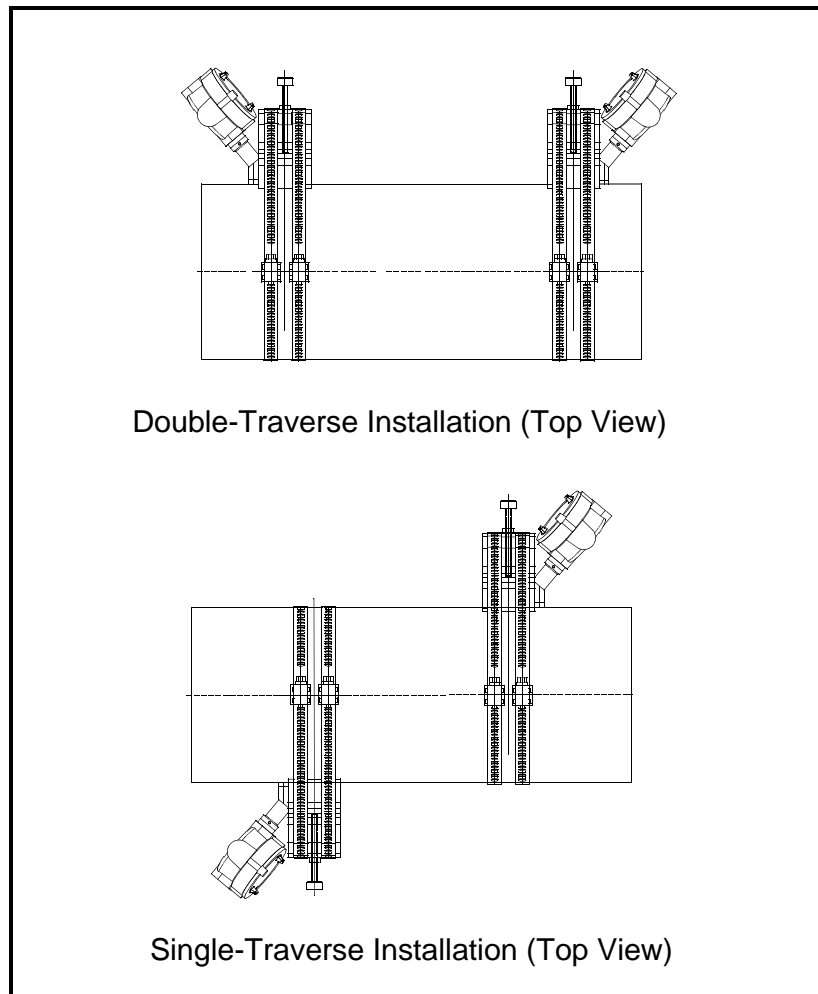

Figure 1-26: Completed CF-ES Installations with Transducers
7. Repeat Steps 1 to 6 to mount the other transducer in the remaining block. See Figure 1-26 on the next page for completed installations.